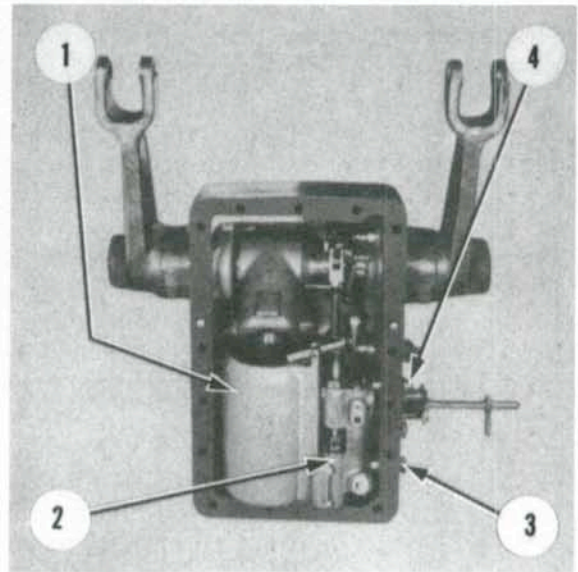

Fig. 328—Underside view of hydraulic lift cover showing lift cylinder (1), control valve assembly (2) and oil pressure connecting sleeves (3 and 4).
**246. OVERHAUL CONTROL VALVE.** With lift cover removed as outlined in paragraph 245, remove control valve assembly (2—Fig. 328) as follows: Remove oil pressure connecting sleeve (3), pilot pressure tube connecting sleeve (4) and lift assist pressure connecting sleeve (if so equipped) from lift cover. Remove four cap screws retaining lift cylinder to cover and remove cylinder and control valve as an as-